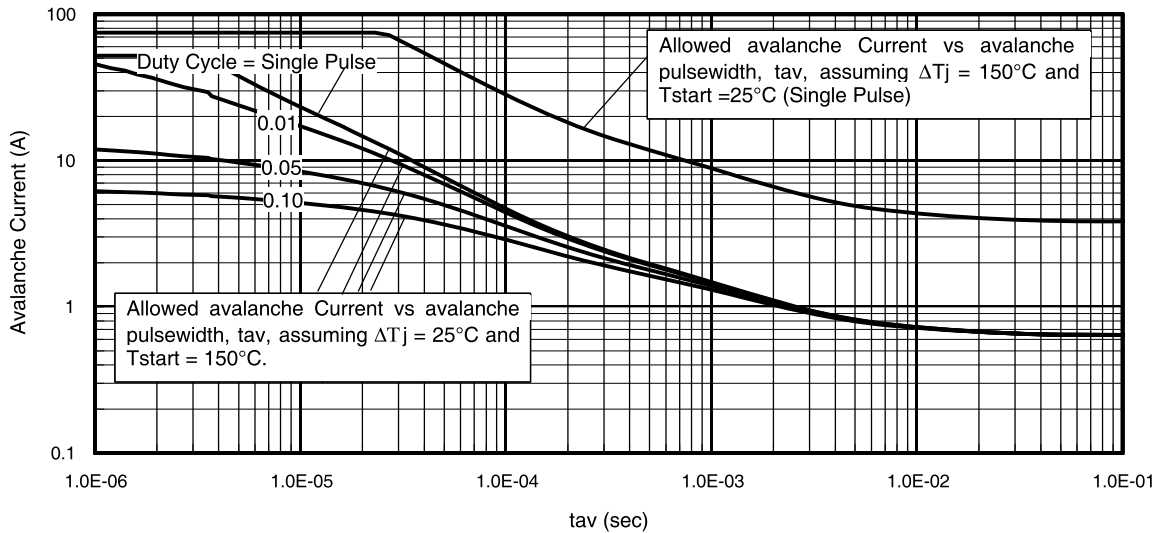

Fig 14. Typical Avalanche Current vs. Pulsewidth
| I_{AR} | Avalanche Current ② | See Fig. 14, 15, 22a, 22b, | A |
Notes on Repetitive Avalanche Curves, Figures 14, 15:
7. ΔT = Allowable rise in junction temperature, not to exceed T_{jmax} (assumed as 25°C in Figure 14).